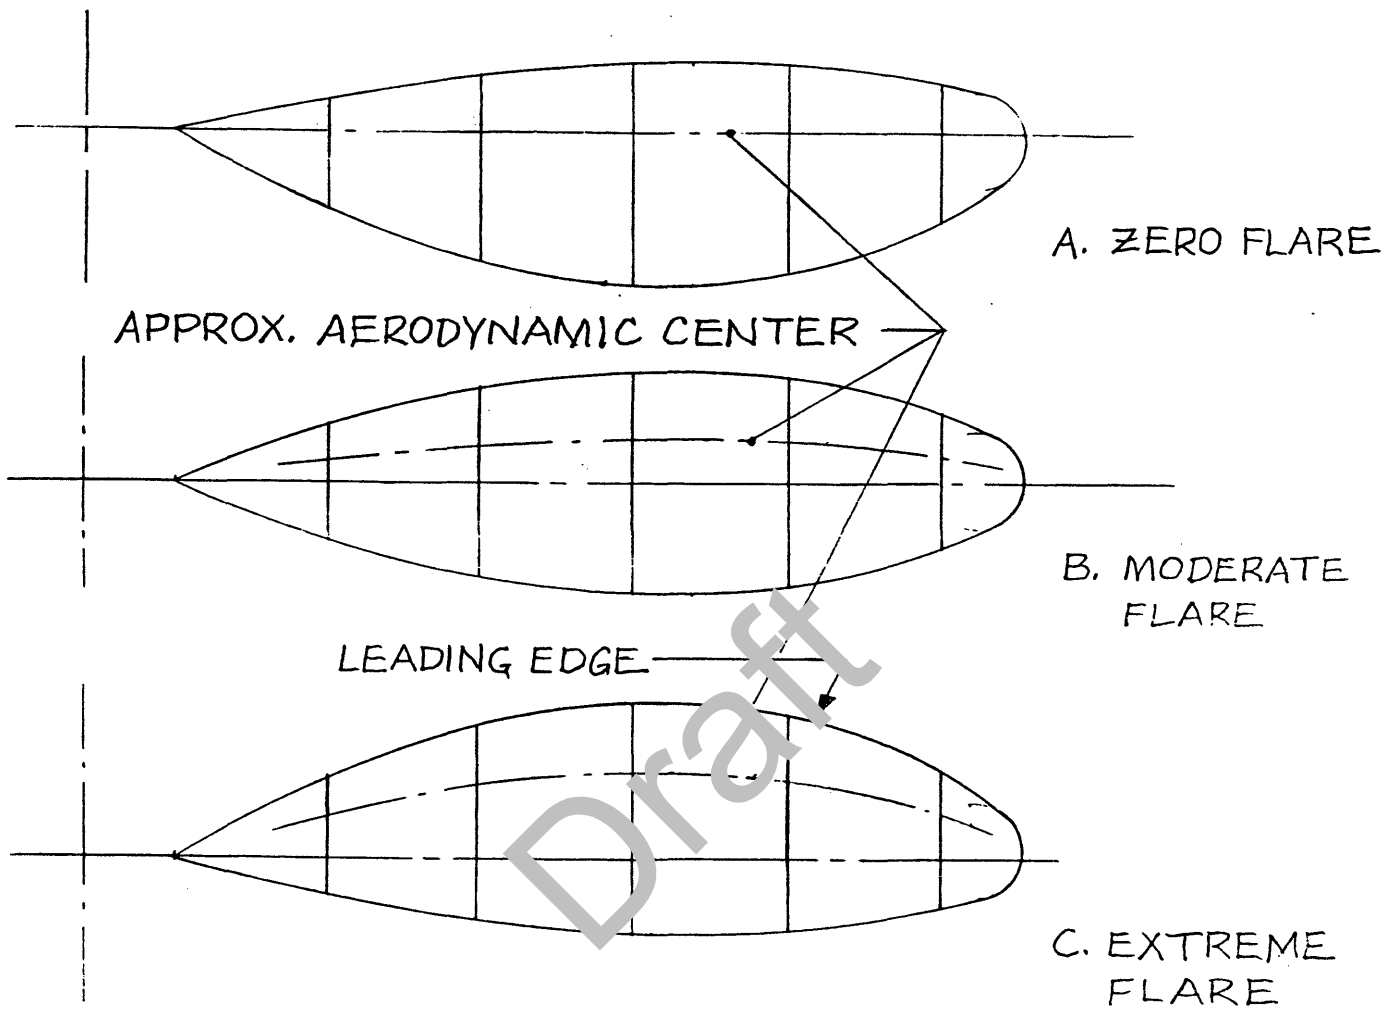

FIG. 35
**BLADE PLAN FORM.**- Depending upon limiting factors, such as diameter and function, blade shape may vary from a graceful willow-leaf pattern to a rather unattractive, but quite utilitarian rectangular paddle. The built up blades used on ultra-light models have no restrictions against diameter, pitch, or blade width, and may be shaped for high efficiency. For some other models, such as "Limited Penny Plane" or "Bostonian" the diameter is limited and yet these propellers must absorb the power of much heavier motors. The only answer is the use of wide paddle blades and higher pitch ratios (the ratio of the pitch to the diameter). Blade area distribution fore and aft of the spar may be varied to create blades of differing flaring capability. Several blade plan form shapes are shown in figures 3-A, 3-B, and 3-C.